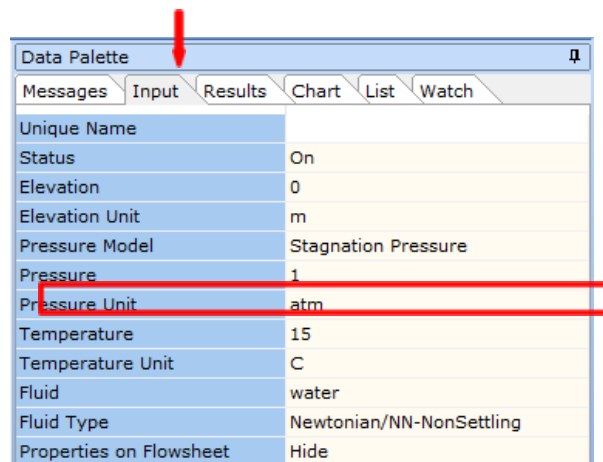

Figure 11: Input Inspector.
- We can now edit the data entry for both nodes at once from the Input Inspector on the *Data Palette* (Figure 11).